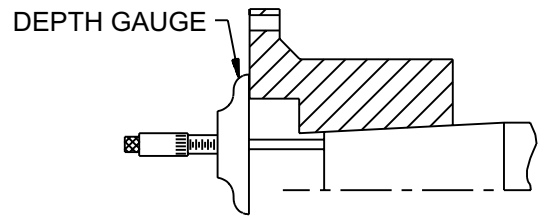

Figure 1. Measuring Hub Overhang
- 2.4 Clean the hub bore and shaft. For straight bores, proceed to step 2.6. For tapered bores, mount the hub hand-tight on the shaft and lightly rap it with a soft mallet to establish the initial line-to-line fit. This is the START position. With a depth gauge, measure the amount the hub overhangs the shaft end and record this value. See Figure 1.
2.7 Place the hub in the proper position on the shaft. Hold the hub in place as it cools. For taper bores, verify the hub advance (see Figure 1 and 2) and install the shaft retaining nut. Remove the split collar from the shaft.